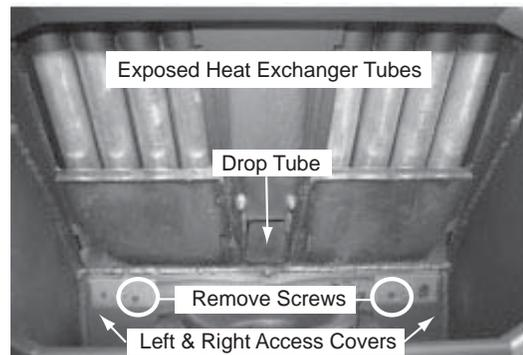

Figure 38.1 - Baffle Removed
1. Use a Shop Vac to vacuum any fly ash and soot from the heat exchanger tubes and firebox area. **Figure 38.1**